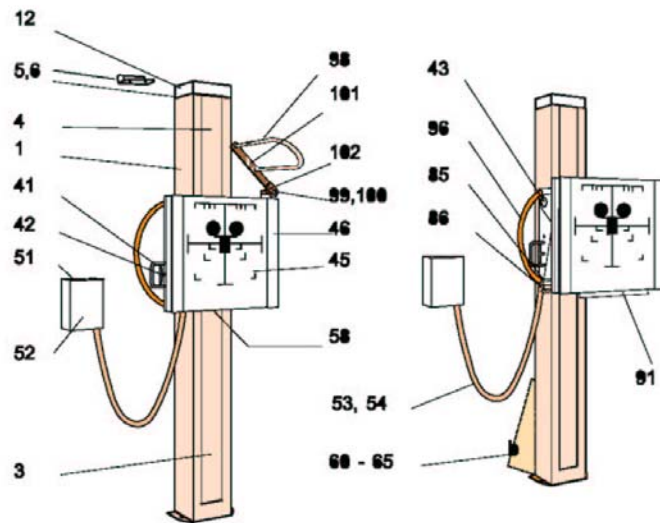

Fig. 1
- 2 Remove bucky cover (Item 45, Fig. 1)
- 4 Remove column top (Item 12, Fig. 1)
- 5 Remove column cover (Item 4, Fig. 1)